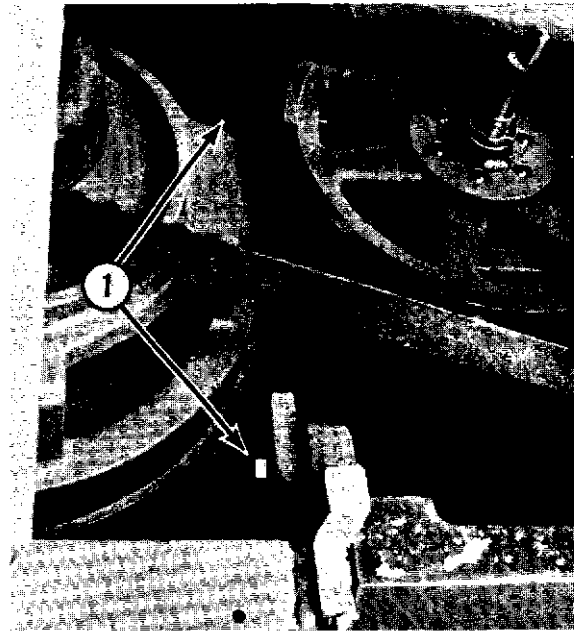

Fig. 7-11
- (1) The upper two bolts are reached from inside the mixer housing (1, Fig. 7-11). They enter tapped holes in the transmission housing.